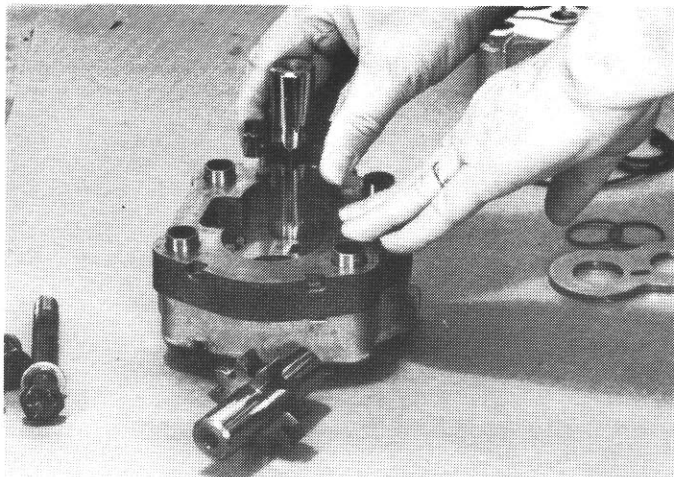

Fig. 9
9. Lift drive gear (10) and idler gear (11) straight up out of gear plate. (Fig. 9)